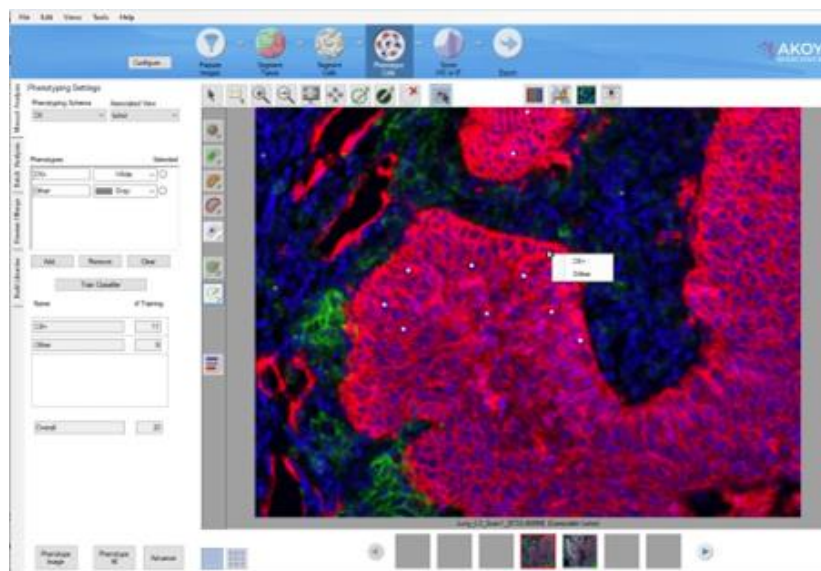

FIGURE 14.5. Selecting a phenotype for given cell.
- Click a cell in the image to open a drop-down list of all the available phenotypes for the selected Phenotyping Schema, and then select the phenotype for the cell. (See Figure 14.5.)